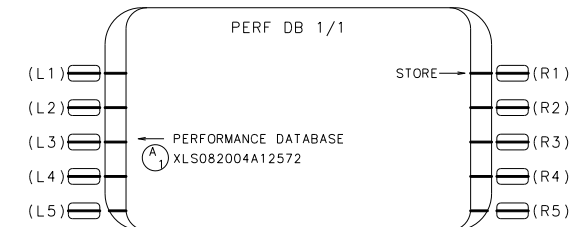

FIGURE 8
11. THE PERF DB PAGE WILL APPEAR (REF FIGURE 8). PRESS PERFORMANCE DATABASE LSK. TYPE IN THE PERFORMANCE DATABASE ID XLS082004A12572 AND PRESS ENTER. PRESS STORE LSK TWICE TO UPDATE THE CONFIGURATION MODULE.